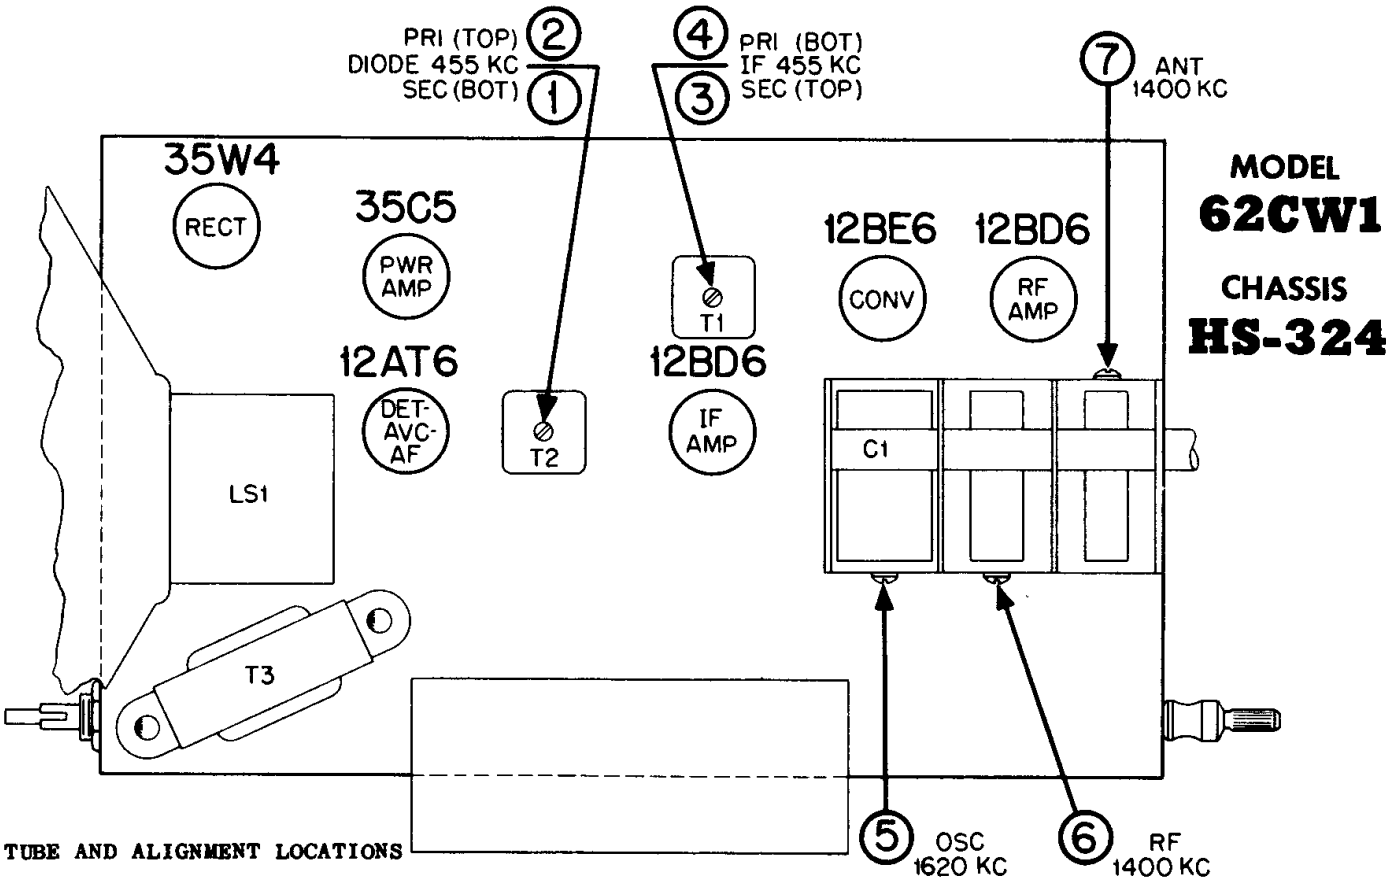

FIGURE 4. TUBE AND ALIGNMENT LOCATIONS
- 7. See Figure 4 for adjustment locations and the following chart for procedure.